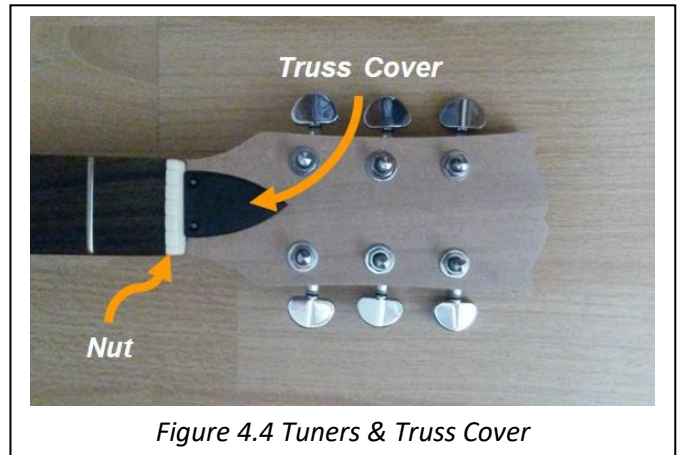

Figure 4.4 Tuners & Truss Cover
4.4 Installing the Tuners & Truss Rod Cover (Figure 4.4)